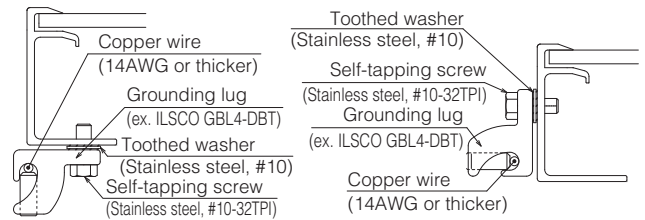

Fig. 4 Grounding method #2
- The appropriate device such as UL Listed ILSCO ground lug, Cat. No. GBL4-DBT should be secured by stainless steel screw (M5 or No.10) with 32 threads per inch by 2.3N·m (20lbf-in) as shown in the figure 4.